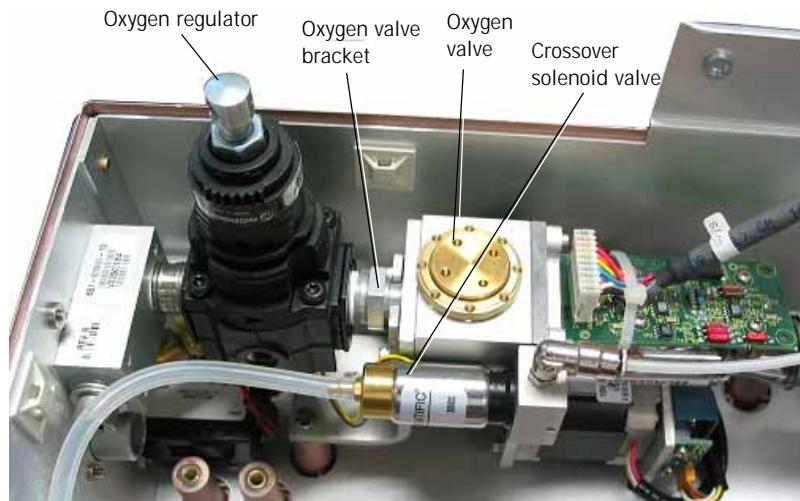

Figure 10-51: Oxygen Valve and Oxygen Regulator
Follow these steps to remove the oxygen valve assembly (Figure 10-51). Reverse removal steps to install.
9. Lift the oxygen regulator assembly away from the enclosure (Figure 10-51).
1. Using a 2.5-mm hex driver, fasten the plate and the oxygen regulator assembly to the bottom enclosure with four M4 x 16 screws (Figure 10-51).